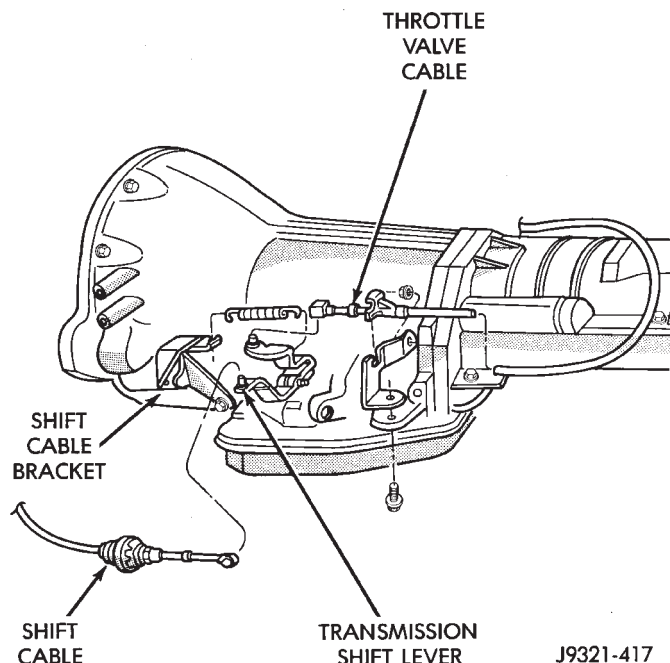

Fig. 175 Shift Cable Attachment At Transmission—Typical
(4) Unsnap cable from cable mounting bracket on transmission (Fig. 175).
(5) Slide cable eyelet off transmission shift lever.
(6) Verify transmission shift lever is in Park detent by moving lever fully rearward. Last rearward detent is Park position.
(7) Verify positive engagement of transmission park lock by attempting to rotate propeller shaft. Shaft will not rotate when park lock is engaged.
(8) Slide cable eyelet onto transmission shift lever.
(9) Snap shift cable adjuster into mounting bracket on transmission.
(10) Lock shift cable by pressing cable adjuster clamp down until it snaps into place.
(11) Lower vehicle and check engine starting. Engine should start only in Park and Neutral.